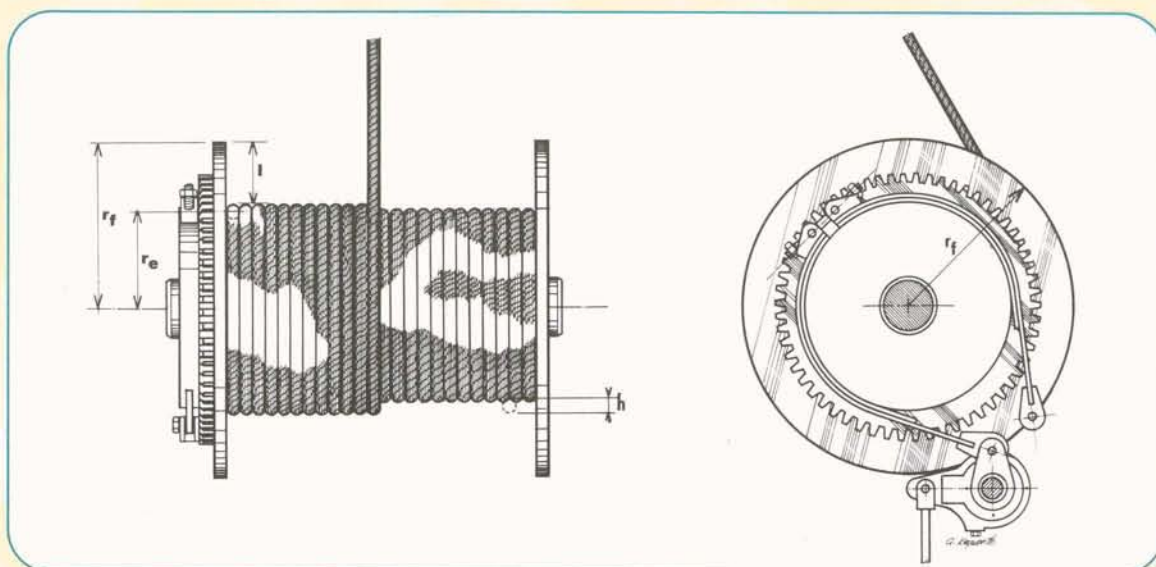

Figure 2 - Skyline drum and rope measurements
crucial, but it is best to have the skyline about half-way through a layer (i.e., the skyline is perpendicular to the drum, as in Figure 2).
- Measure the flange radius (mm), r_f (Figure 2).